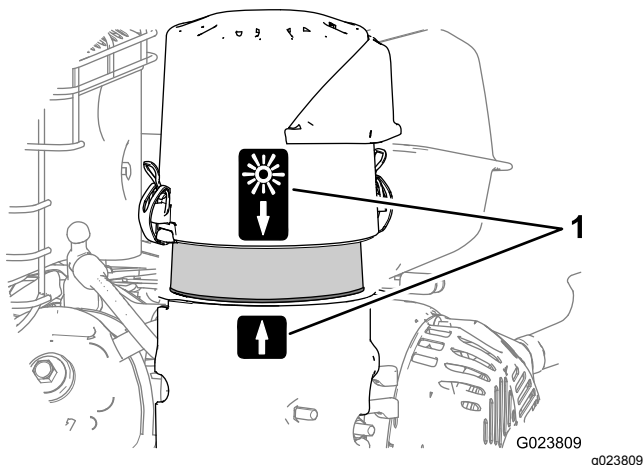

Figure 32
- Align the arrow decal on the air-cleaner cover and the arrow decal on the base (Figure 32).